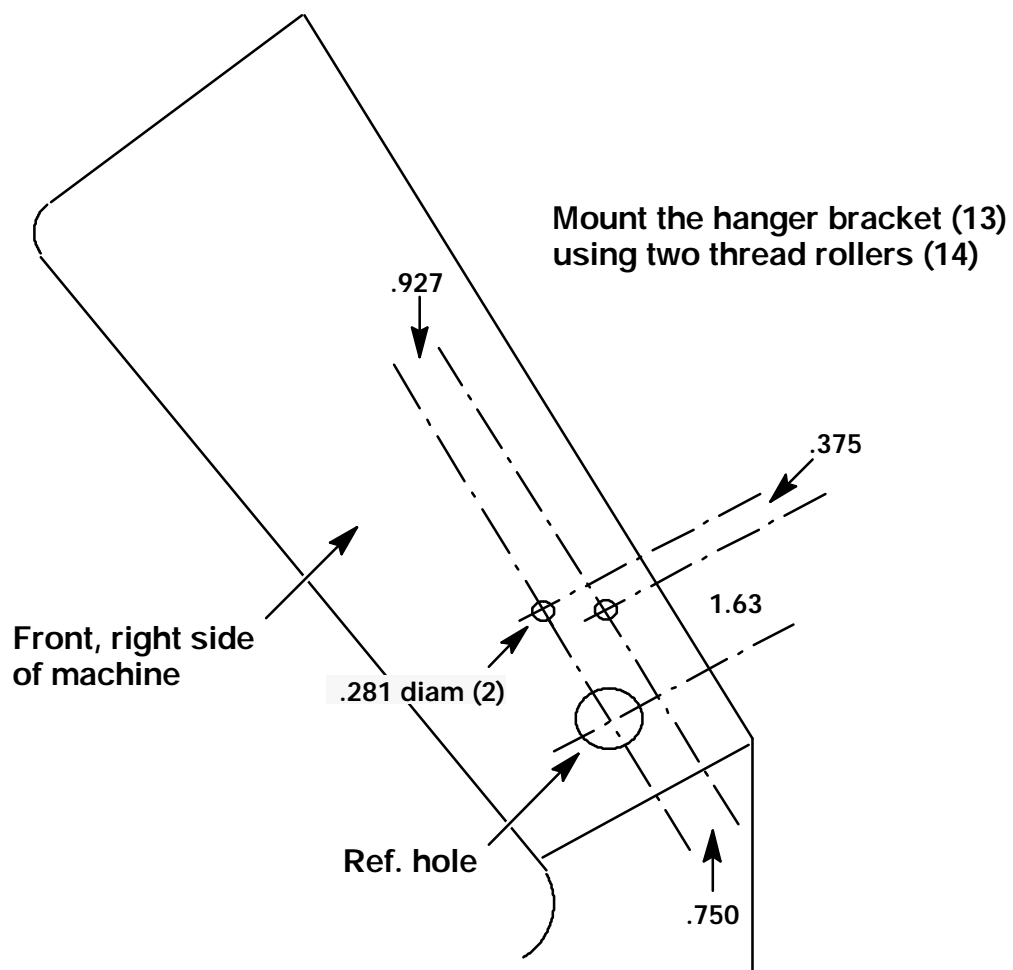

FIG. 4 - Mount Hole Location Tool Hanger Bracket (13)
3. Use the dimensions in Fig. 4 to mark and drill the mount holes for the hanger bracket (13). Use the two thread rolling screws (14) to mount the hanger bracket (13).